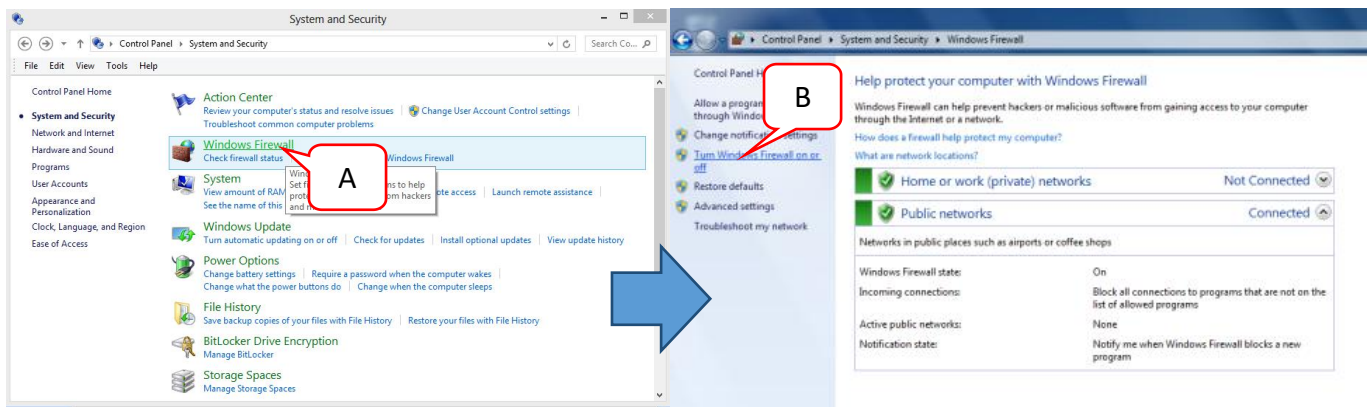

Figure 12 Window firewall
7. Return to “System and Security” tab and enter to “Power Option” tab. Select “Never” for “Turn off the display” and “Put the computer to sleep” and click “Save changes” as Figure 12.
9. Expand the “Hard disc” tab and set the “Turn off hard disk after” to “0”. Then go to “Sleep” and expand, set the “Sleep after” to “0” and “Hibernate after” to “Never” as Figure 12. Click “Ok” once set-up complete.